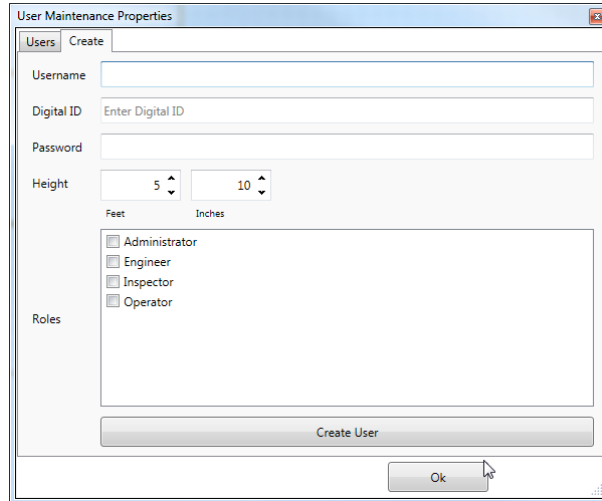

Figure 3.2 Creating a User Account
5. Click the Create tab.	See Figure 3.2.